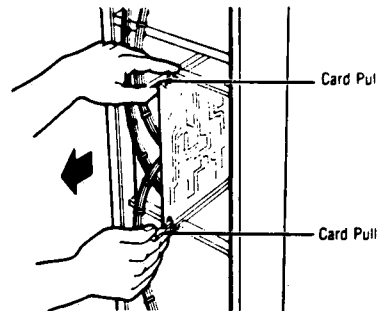

Figure 7-8. REMOVING A PRINTED CIRCUIT CARD.
6. The printed circuit boards in the controller are removed by lifting the card pulls to disengage the contacts from the socket, and pulling the card straight out. See Figure 7-8. Use both card pulls simultaneously, to ensure starting the card straight. This prevents damage to the socket contacts. The controller itself is held in position by a single screw, located at the top. Unplug the two cables from controller, remove screw, and slide controller forward on its rails. For removal of Indicator-Recorder-Controller, refer to paragraph 7.2.